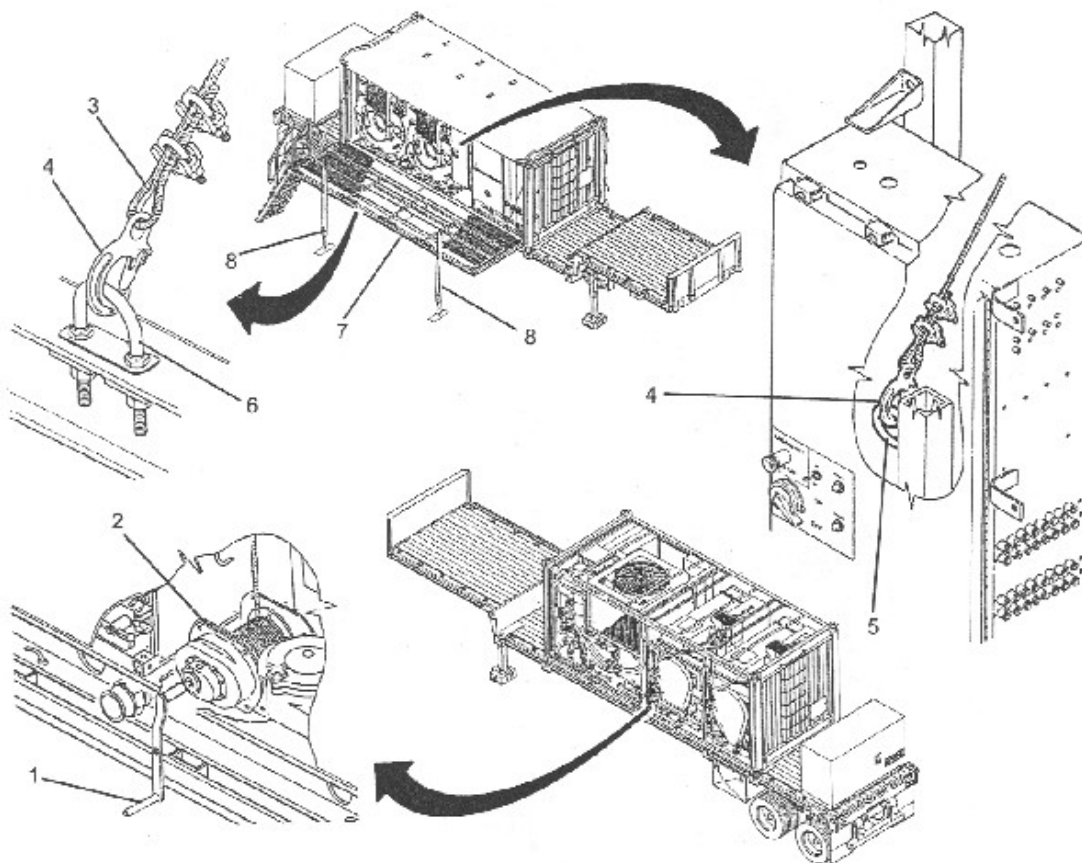

Figure 3-60
- (f) Insert quick-connect pin into support leg. (See Figure 3-60)